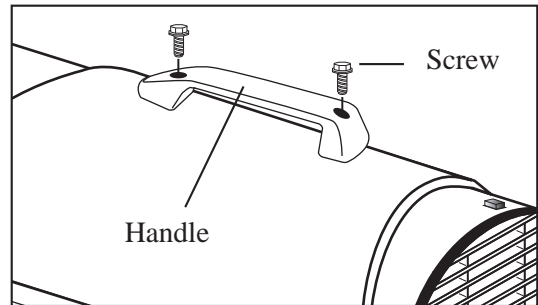

Figure 6
A. For RMC-KFA45T/RMC-KFA65T Models only (Figure 6)
1. Align the holes on the upper shell with the 2 mounting holes on the handle as shown in Figure 6.